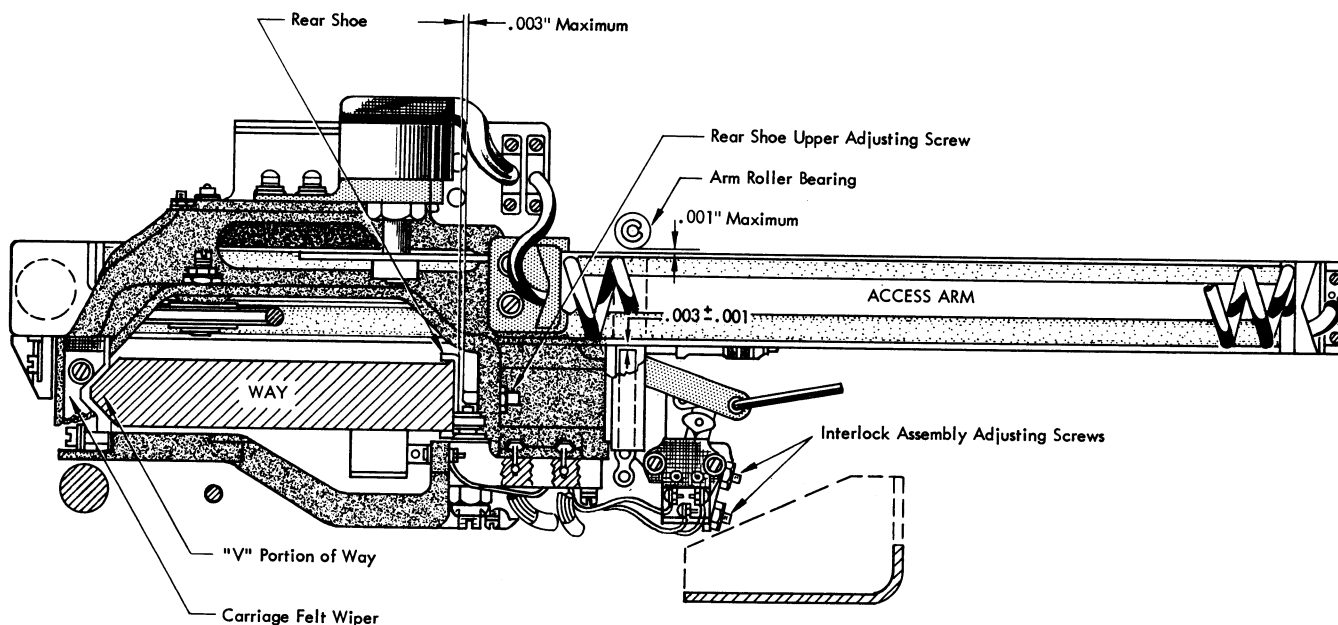

Figure 3-6. Access Arm and Carriage Assembly (Top)
1. Apply disk detent air to pull carriage against "V" portion of way (Figure 3-6).
2. Adjust upper and lower adjusting screws for a .003" maximum clearance between screws and rear shoe (Figure 3-6).
2. Rotate roller eccentric stud for a maximum of .001" roller to arm clearance. Tighten locknut. (Figure 3-6).
DISK DETENT INTERLOCK (FIGURE 3-6)
Rear Shoe (Figure 3-6)
3. Adjust the two adjusting screws for a clearance of .003" maximum between screws and rear shoe (Figure 3-6).